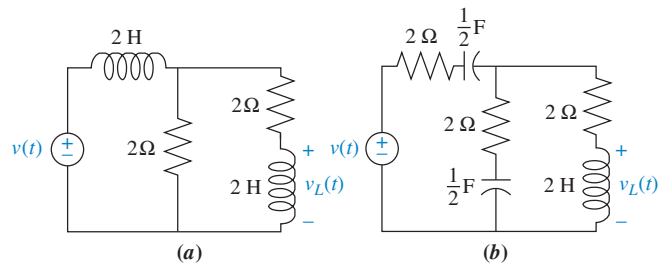

FIGURE P2.4
18. Find the transfer function,  $G(s) = V_L(s)/V(s)$ , for each network shown in Figure P2.4. [Section: 2.4]